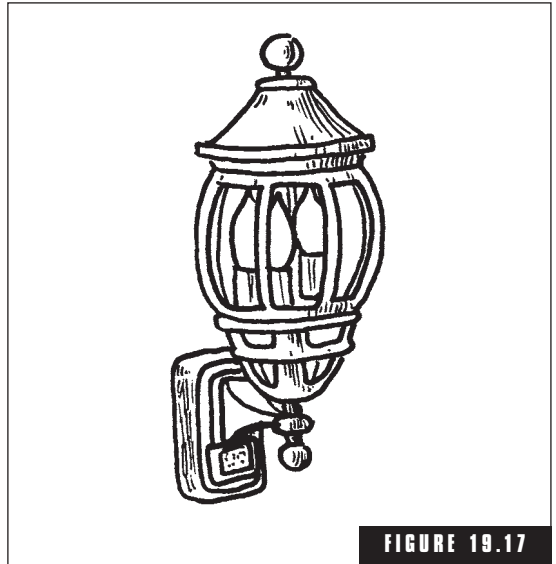

FIGURE 19.17
- Consider solar powered security lights (Fig. 19.17), where solar panels collect free natural light during the day and store it as energy in rechargeable batteries. No exterior supply wiring is needed. For motion-sensing models, at night, a halogen bulb